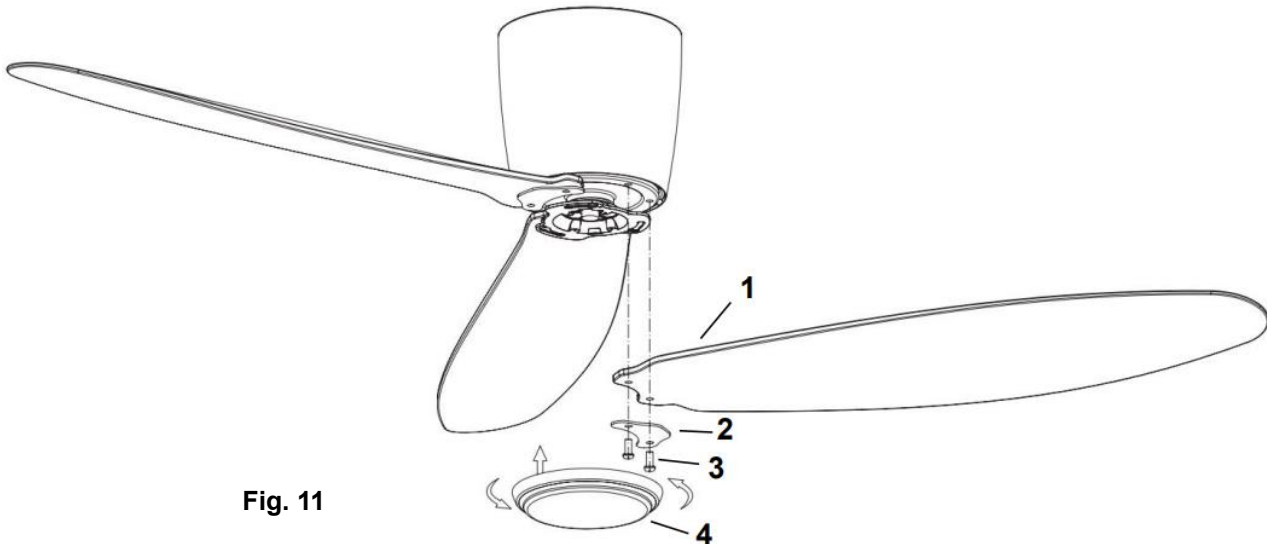

Fig. 11
BLADE INSTALLATION (Fig.11)
- Insert the blade screws through the blade assembly in the following order - bracket kit (2) and blade (1). Attach the blade assembly to the motor and secure it by tightening the 2 screws (3). Fig. 11
- Finally install the bottom cover (4) to the shaft of the motor by rotating it clockwise.